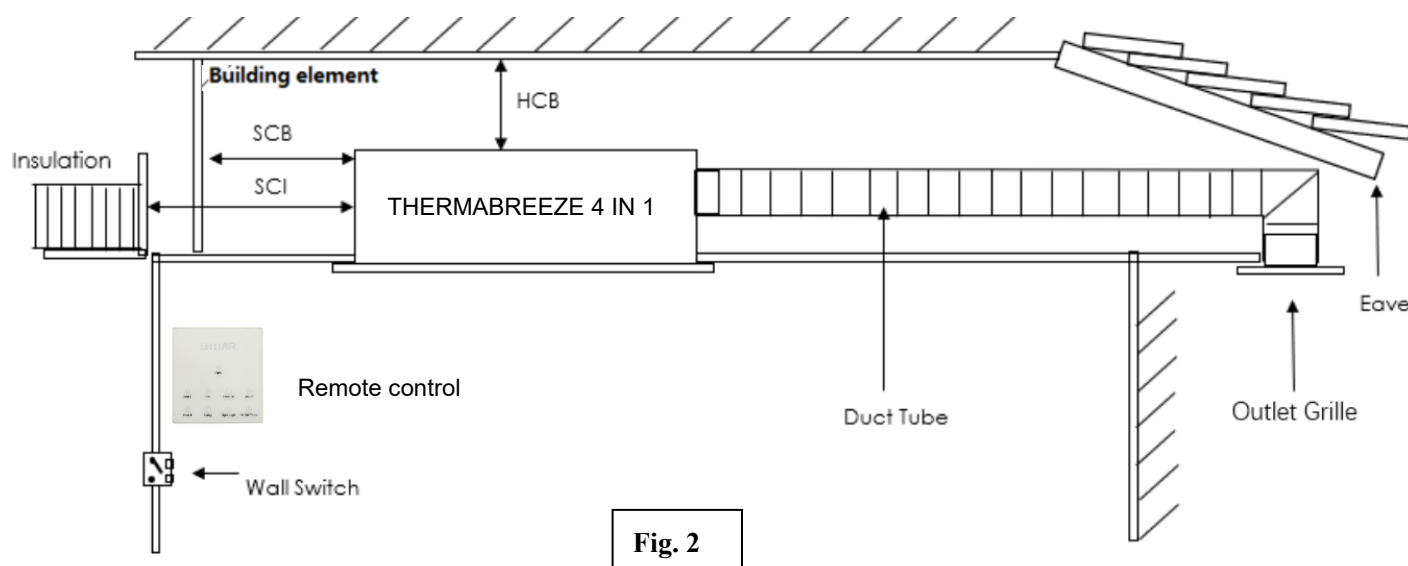
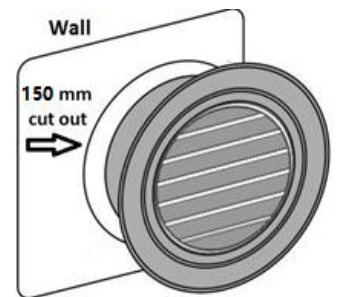

Fig. 2
Fig. 5
4. Select a suitable location for the installation of the External Outlet Grille (I). The recommended location of the Outlet Grille is on an exterior wall/surface of the building such that the ducting is routed as straight and linear as possible between the Exhaust Fan Outlet (C) and the Outlet Grille. This will ensure the best possible air extraction.
5. Determine the length of Flexible Aluminium Ducting (F) required between the THERMABREEZE unit and the Exterior Outlet Grille (I) as show in the diagram above (Fig. 2 & 3). 3 meters of aluminium ducting is provided. If required, cut the aluminium duct to appropriate length.
6. Feed the length of the Flexible Aluminium Ducting (F) through the ceiling cavity to the chosen location of the External Outlet Grille (I).
7. **INSTALLING THE EXTERNAL OUTLET GRILLE (Fig. 5):**
- Feed the Flexible Aluminium Ducting (F) through the hole and connect it to External Outlet Grille (I) using one of the provided Cable Ties (G). Ensure the connection is secure.
- Affix the external grille to the surface using 4 Screws & 4 Anchors (K). Ensure the screws and anchors used are suitable for the mounting surface and the surrounding environment.